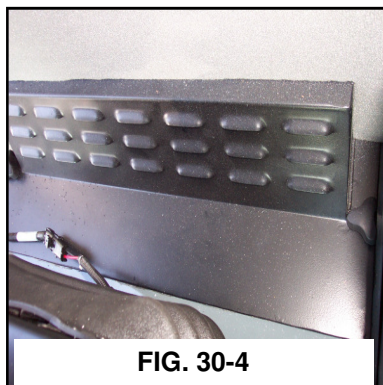

FIG. 30-4
**CAB FILTERS**– Inside the cab are two filters (fig. 30-4), a charcoal filter and a paper filter. Refer to the SERVICE section C on filters for maintenance information. Refer to the Hagie STS 16 Part Manual for replacement part information.